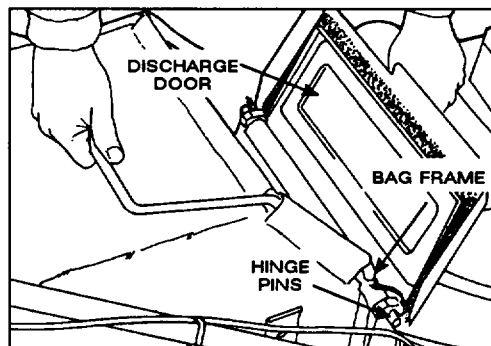

Figure 8
2. **INSTALLING BAG**—Raise discharge door and hook bag frame onto hinge pins (Fig. 8). Allow bag to rest on mower housing over discharge opening. Close door and make sure it seals around top of bag opening.